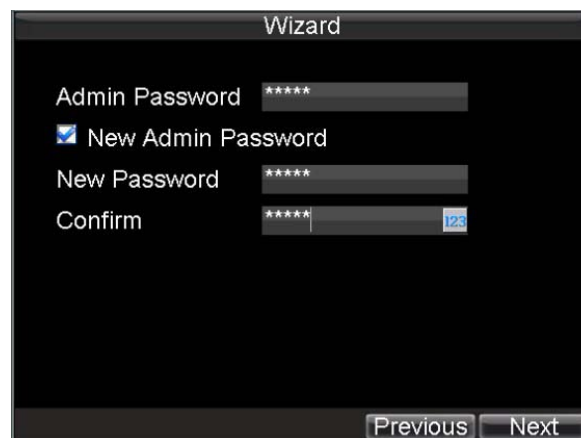

Figure 4. User Permission
1. Click the *Next* button on the Wizard window. This will take you to the **User Permission** window, shown in Figure 4.